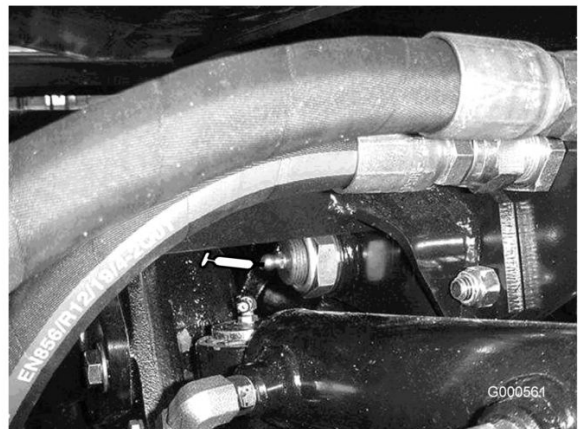

Figure 25
- Rear axle pivot bushings (2) (Figure 25)